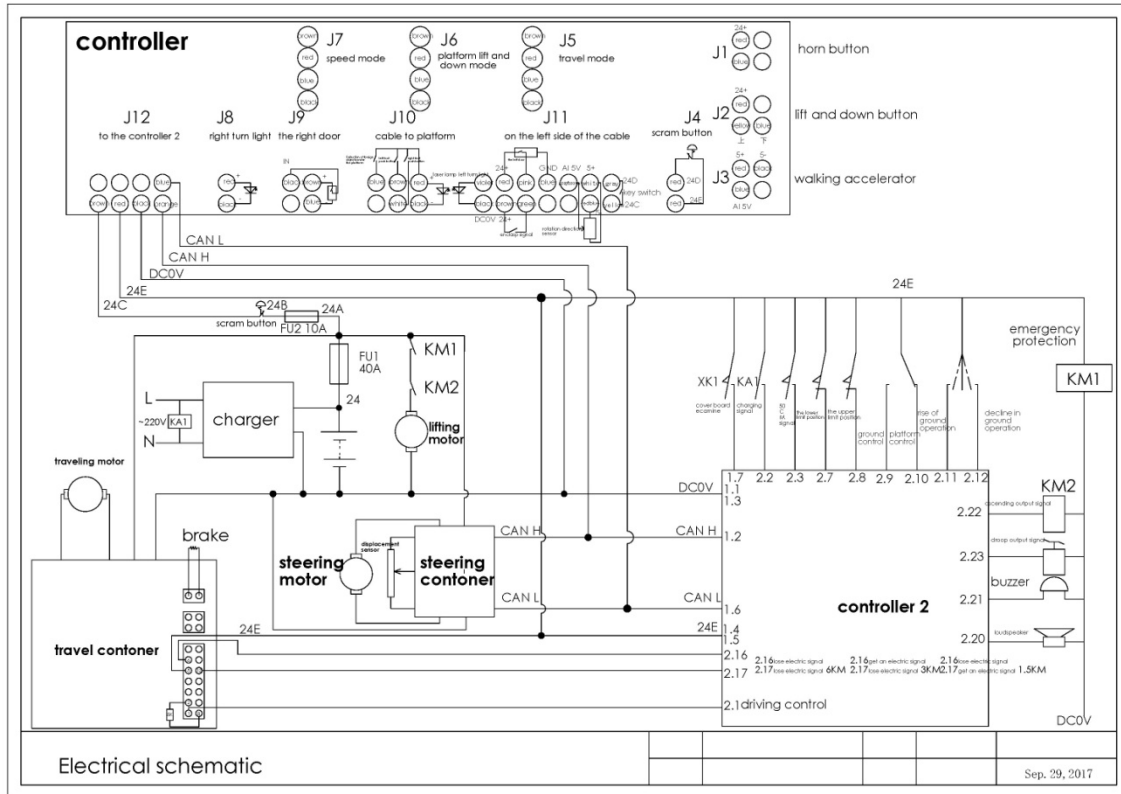

Figure 14 Electrical schematic
3.3.1.1. The electrical schematic is shown in Figure 14: